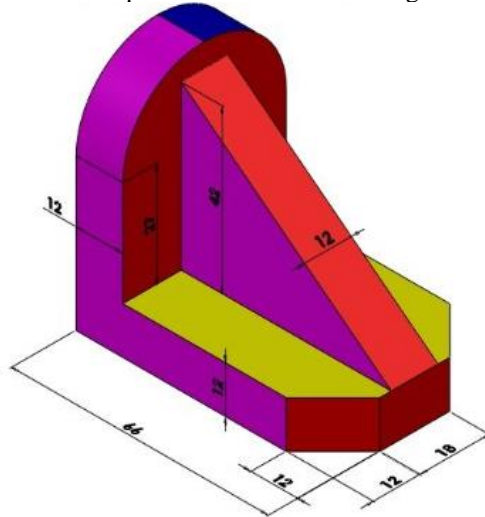

Fig.10.1
1. Draw the front view, side view and top view for the below Fig.10.1